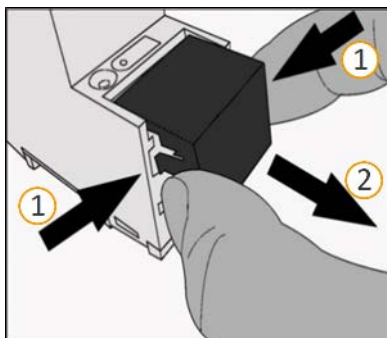

Figure 27: Removing the cover cap
1. Gently press in the cover cap at the side (see figure 27, item 1).
2. Pull off the cover cap upwards (see figure 27, item 2).